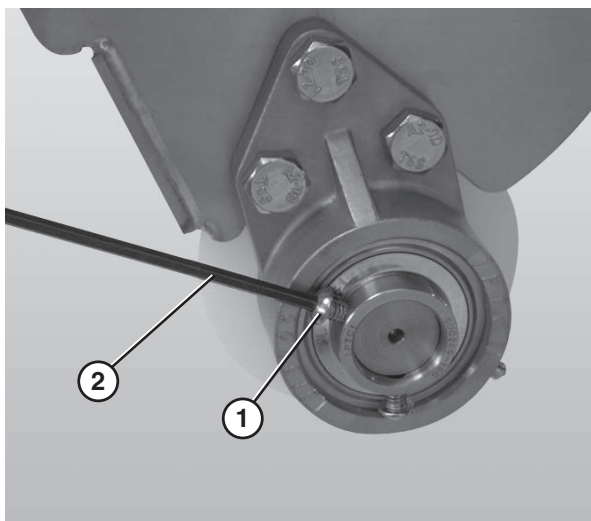

Figure 60
6. Loosen the 3 hole flange (Figure 60, item 1) with bearing fasteners using a hex wrench (Figure 60, item 2).